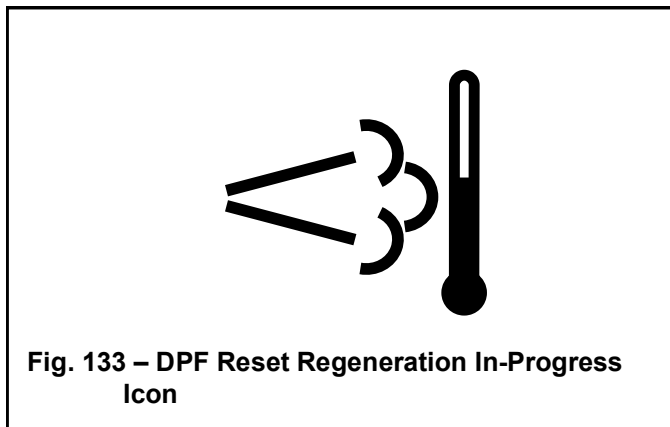

Fig. 133 – DPF Reset Regeneration In-Progress Icon
When reset regeneration occurs, the DPF in-progress (elevated temperature) symbol (Fig. 133) displays on the screen.
**NOTE:** The DPF in-progress (elevated temperature) symbol (Fig. 133) will not be displayed when reset regeneration is inhibited.